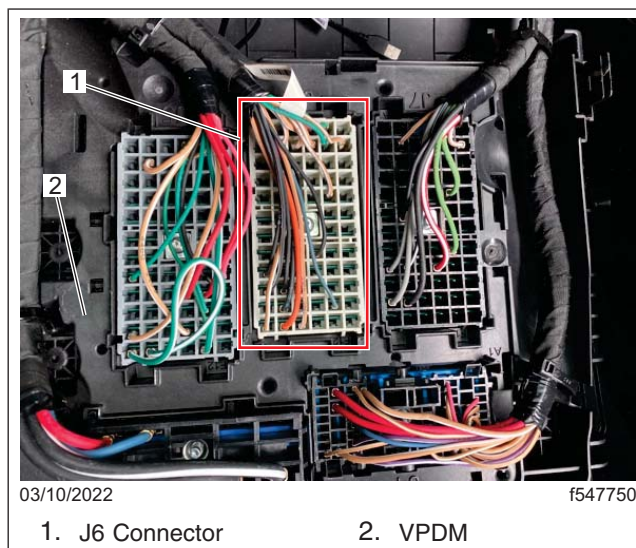

Fig. 15, VPDM J6 Connector
10. Remove the VPDM J6 connector from the VPDM. See Fig. 15.